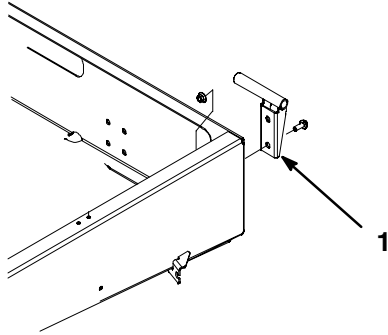

Figure 8
2. Mount the left hand pivot bracket to the left rear corner of the frame with (2) 3/8 x 1" cap screws. Position the bracket as shown in Figure 8.